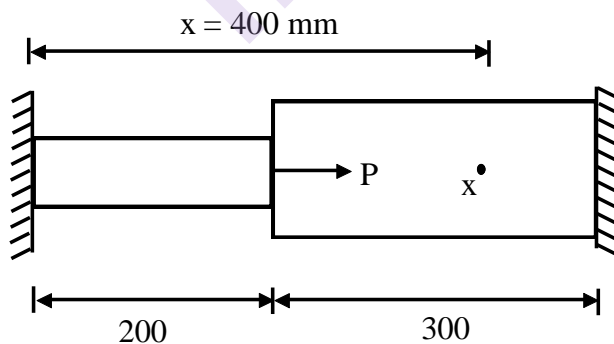

Fig. Q. 2 (a)
2. a) Use Rayleigh Ritz method to find the displacement field $u(x)$ of the rod shown in fig. Q. 2 (a) Element 1 is made of aluminium and element 2 is made of steel 16